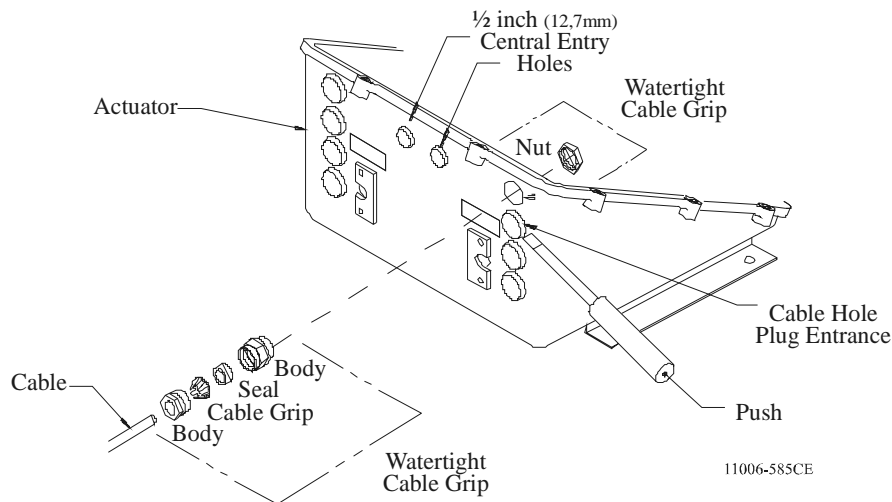

Figure 4: Plug Removal
- E) Locate the two 1/2 inch (12,7mm) central entry holes and remove the plastic plugs. Refer to Figure 4: for the location of the holes.